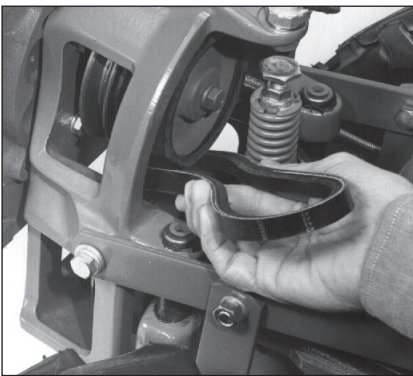

Figure 5-20: Shift into **FORWARD** and remove the belt.
6. Push the Wheels/Tines/PTO Drive Lever down into the FORWARD position. This increases the distance between the upper and lower pulleys. Next, lift and pull the entire belt out between the pulleys (Figure 5-20).
2. Squeeze the belt in the middle and insert one end in between the pulleys (Figure 5-20).